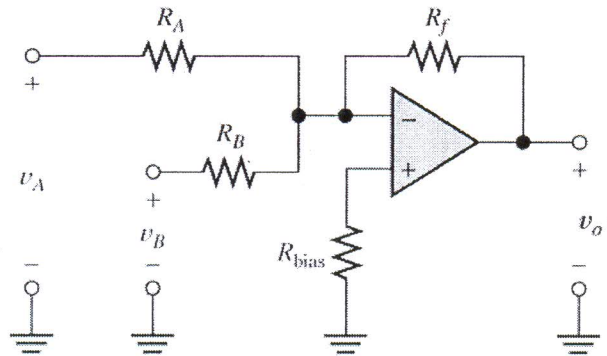

Figure 6: Summing Amplifier Circuit
- (b) **Figure 6** below shows a summing amplifier circuit. Calculate the output voltage V_o if $R_A = 100$, $R_B = 200$, $R_f = 600$, $V_A = 10\text{v}$ and $V_B = -5\text{ V}$.